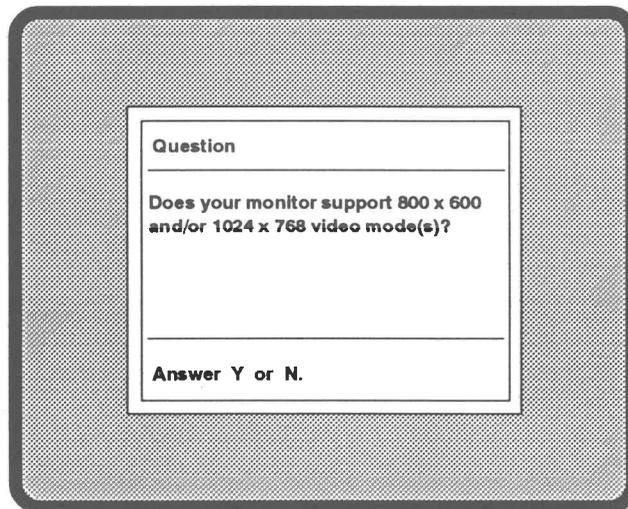

Figure 5-8 Defining Display Specifications
2. Part way through the test, the window illustrated in Figure 5-8 appears. A multi-frequency display is required to support the higher resolution modes. Since the on-board video controller supports the video modes, but the display may not, you must define the capabilities of your display.